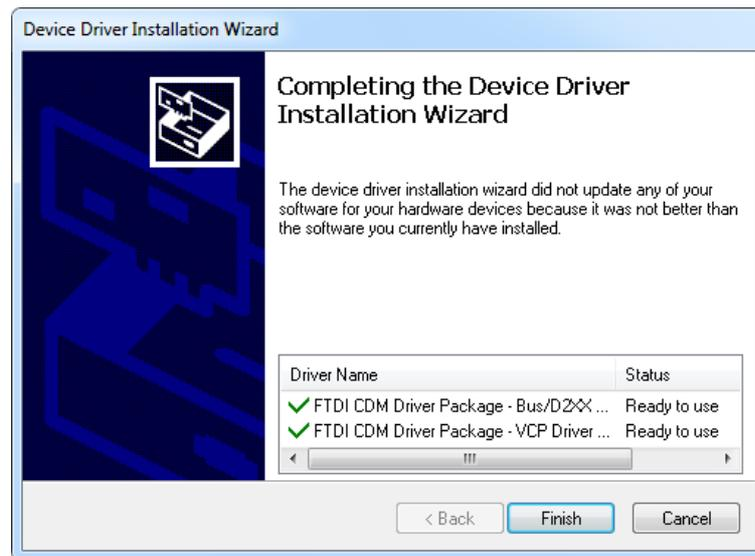

Fig. 5-8 Finishing the installation.
4. After installation you are informed of whether the driver files were properly installed (Fig. 5-8).